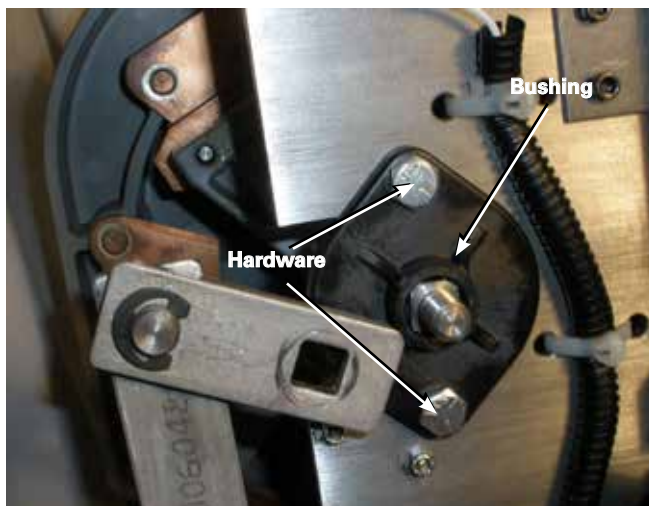

Figure 46. Reinstalling bushing.
- If none is present on the threads, apply Loctite® 243™ threadlocker to the two 1/4-28 bolts. Using the bolts and a 7/16" wrench, fasten the reversing movable bushing to the front of the tap-changer. Tighten the bolts to a torque of 30–40 in-lbs (3.4–4.5 Nm). See Figure 46.